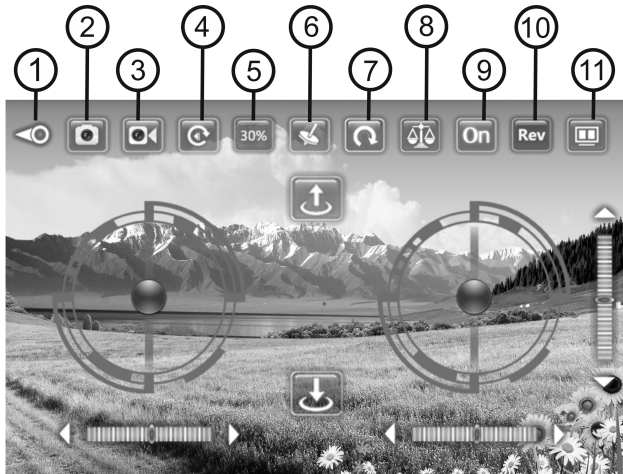

Figure 14
→ "Binding" the two devices is successful if the LEDs in the quadcopter's landing struts remain lit and the LED on the bottom of the housing of the model flashes. The display now shows the operating elements of the App and the video image of the camera installed in the model. Choose "On" (see figure 14, item 9), in order to conceal the control elements.
Additionally, you can take a picture with the quadcopter camera or start a video recording with the video camera symbol (figure 14, item 3) on the display of your Smartphone before or during operation of the quadcopter by selecting the camera symbol (see figure 14, item 2).
→ You cannot use the app to take serial pictures. The camera is activated when you touch the camera icon (figure 14, item 2). A picture will be created after releasing the symbol. Stop video recording by selecting the video camera icon (figure 14, item 3) again.
When you have stopped flying, you can view the first pictures or videos on your Smartphone right away. For this, choose the corresponding symbol on your Smartphone (figure 14, item 4). New screen content will appear.